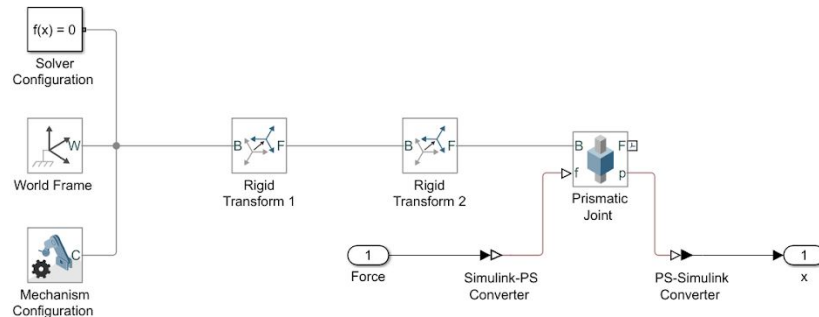

Figure 5: adding converters
- f) In the Library Browser, search for In1 and Out1 input and output ports as well as a PS-Simulink Converter and a Simulink-PS Converter. These are needed to make connections from the prismatic joint block to the outputs and from the inputs to the prismatic joint block. Once the connections are made, double click the converters and set the units to their corresponding inputs and outputs. Also label your inputs and outputs so the graphs produced in the later stages of this lab are comprehensible (Figure 5).